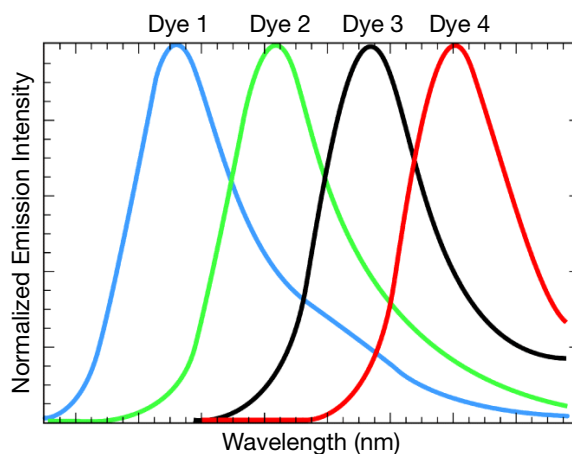

Figure 7 Emission spectra of the four BigDye dyes, where Dye 1 = Big-d110, Dye 2 = R6G, Dye 3 = Big-dTAMRA, and Dye 4 = Big-dROX
The fluorescent dyes used in BigDye[®] terminators, BigDye[®] primers, and dRhodamine terminators have narrower emission spectra and less spectral overlap than the rhodamine dyes used in previous sequencing kits. As a result, the dyes produce less noise. Figure 7 shows the normalized emission spectra and spectral overlap of the four dyes in the BigDye Terminator Cycle Sequencing Kit.
- **Multicomponent analysis** – Each fluorescent dye emits its maximum fluorescence at a different wavelength, but there is some overlap in the emission spectra (Figure 7 on page 8). Thus a signal generated primarily in one color channel may yield a lower signal in an adjacent color channel. Multicomponent analysis separates the four different fluorescent dye signals into distinct spectral components by mathematically filtering fluorescence signal from dyes with emission spectra overlap
- **Quality value determination (QV)** – If the KB basecaller is used for analysis, the software assigns a QV for each base. The QV predicts the probability of a basecall error. For example, a QV of 20 predicts an error rate of 1%. The quality prediction algorithm is calibrated to return QVs that conform to the industry-standard relationship established by the Phred software. If your pipeline involves analysis with Phred software to assign QVs after the data is basecalled, you can simplify your workflow and use the KB basecaller instead. The KB basecaller can perform basecalling and assign QVs. Then, you can generate phd.1 or *.scf files using the KB basecaller to integrate with your downstream pipeline.